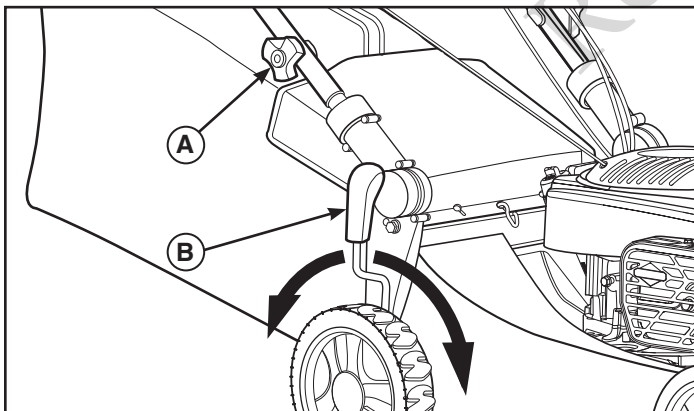

Figure 8
1. Pull the lever (B, Figure 8) away from the locking tab.